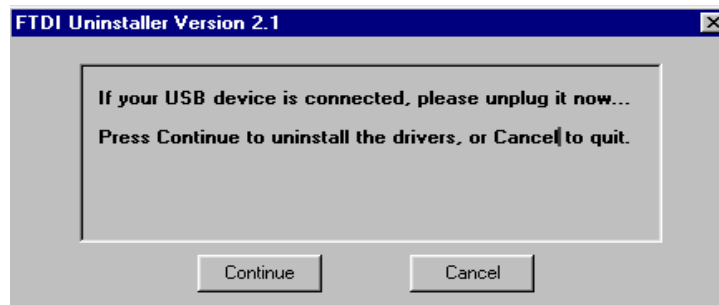

Figure 35
6. Click **Continue** on the **FTDI Uninstaller** confirmation panel (Figure 35).